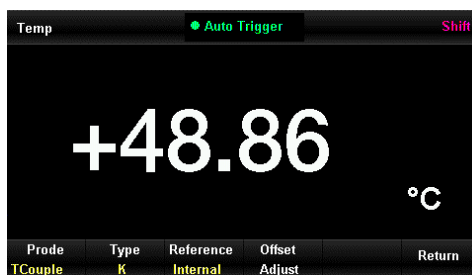

Figure 3-12 K-type thermocouple temperature measurement
- 1) Connect the sensor as **Chapter 2**. See Figure 3-12.